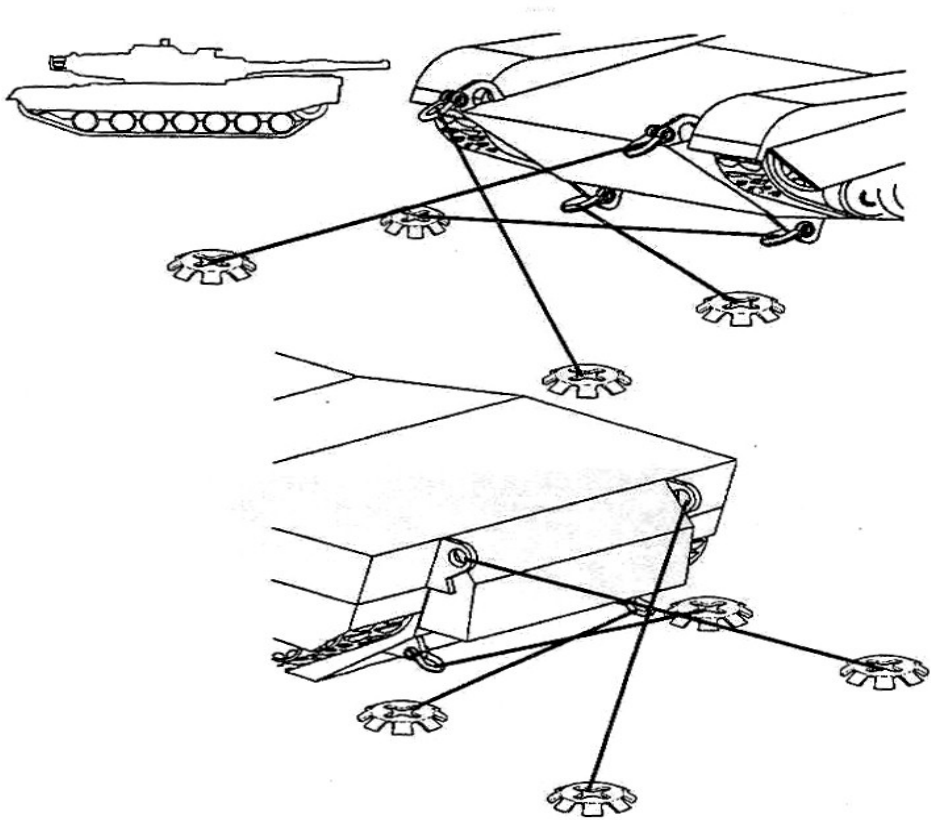

Figure 3-97
2. Stow tracked vehicles on RO/RO deck (see Figure 3-97).